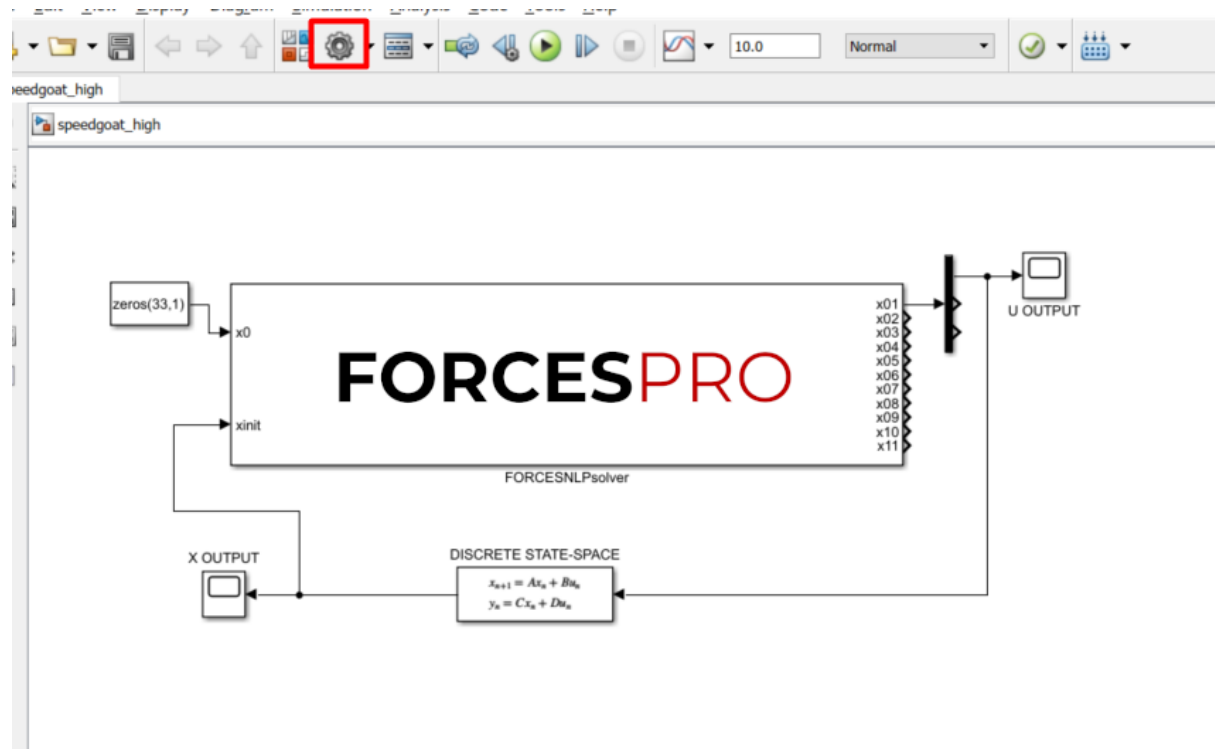

Figure 13.66: Open the Simulink model options.
7. (Figure 13.66) Access the Simulink model's options.